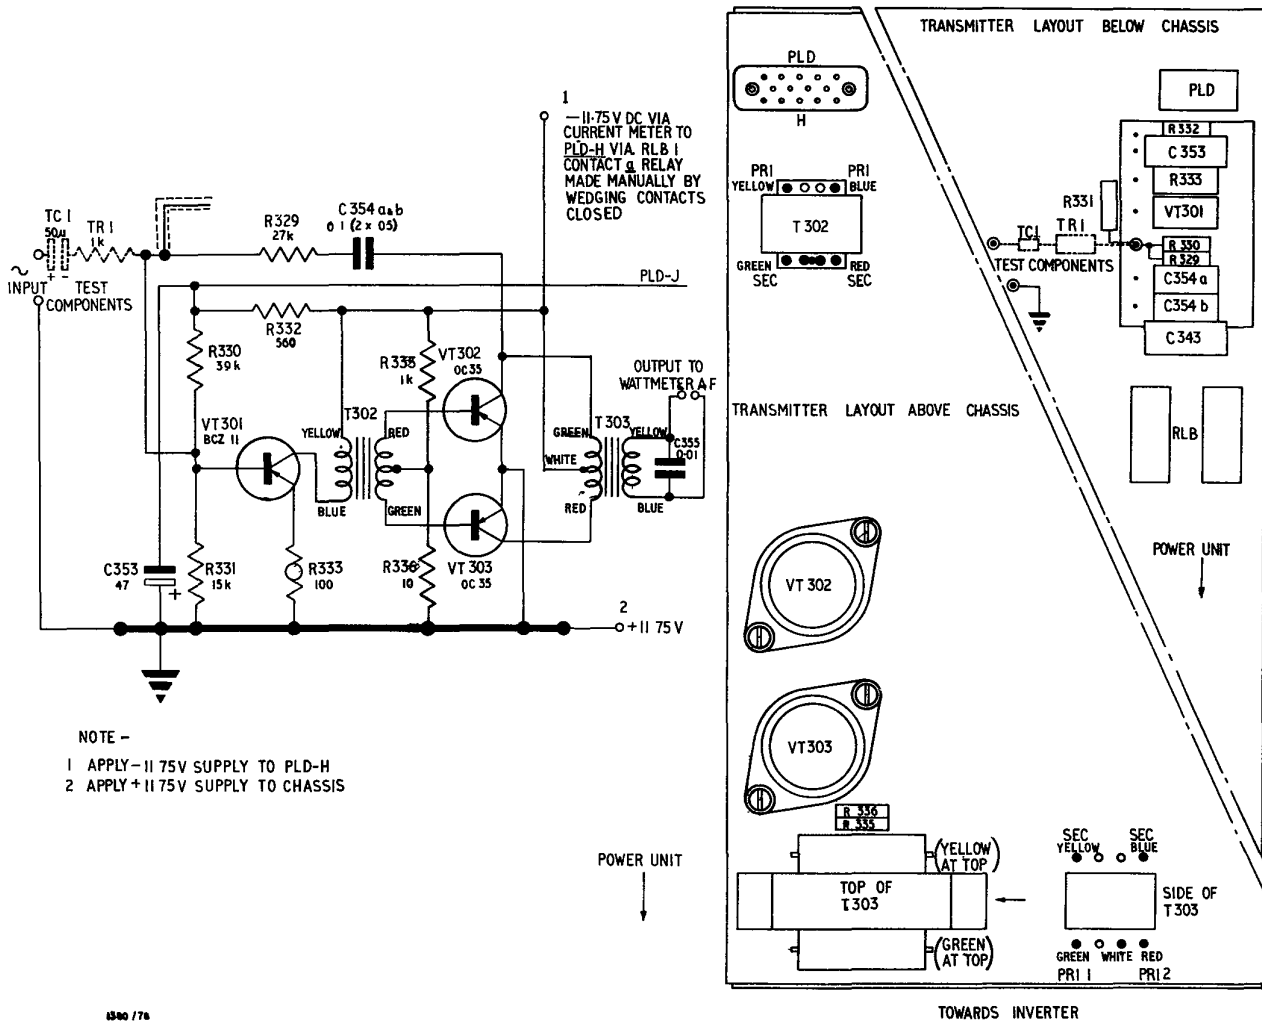

Fig 11 - Modulator, test connection detail
- f. Connect the audio oscillator, set to 1000c/s and high impedance output, via a 50 μ F 12V wkg electrolytic capacitor (positive to oscillator) in series with a 1k Ω composition resistor, to the junction of R329, R330 and R331 (see Fig 11).